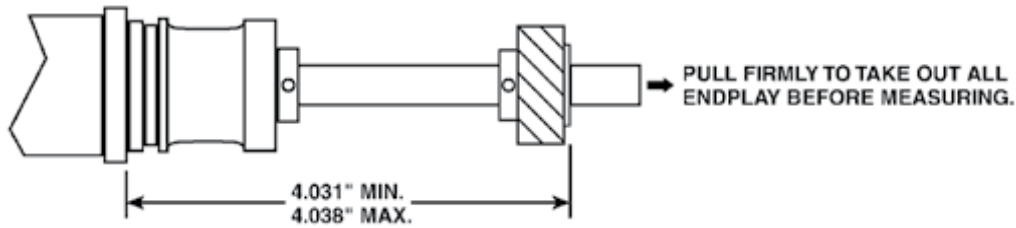

Fig. 1
- STEP 6:** Pull distributor shaft out of distributor housing to eliminate endplay (see Fig. 1).
- STEP 7:** Check location of distributor gear on distributor shaft (see Fig. 1). If it is not in the correct location, use a press to move the gear to the correct location.
**NOTE:** It is important that the dimensions called out in Figure 1 are maintained while drilling.
- STEP 9:** Insert roll pin and check dimensions (see Fig. 1).